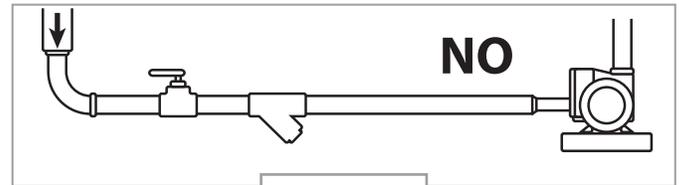

Figure 9
8. Use only eccentric reducers with the flat side up when changing pipe size horizontally. **Figure 8**. Concentric reducers may be used if reducing line size vertically, and as close as possible to the internal valve outlet. The use of bushings is not recommended. **Figure 9**.